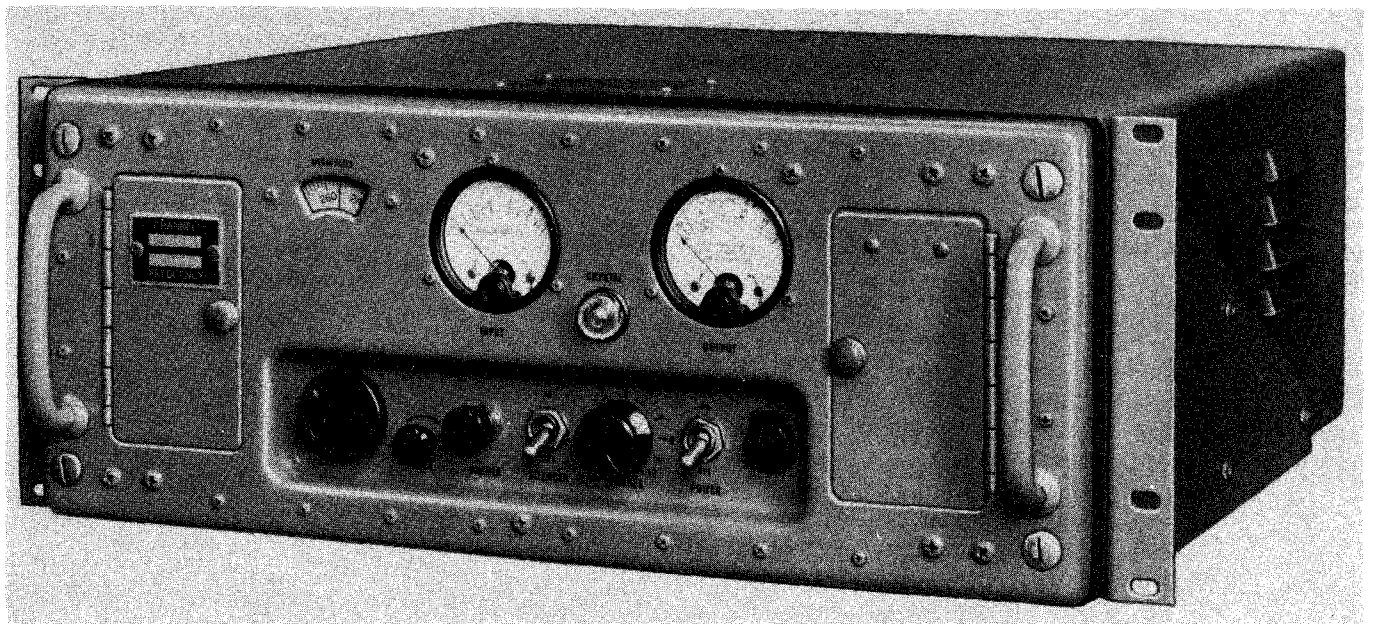

Figure 3-4. Radio Receiver R-482A/URR-35, Relay-Rack Mounting Brackets Attached and Shockmounts Removed
(2) RELAY-RACK MOUNTING.—If the receiver is to be mounted in a standard 19-inch relay rack, it will be necessary to remove the four shockmounts from the bottom of the cabinet and to attach the two angle brackets provided to the sides of the cabinet; see figure 3-4. The shockmounts can be taken off by merely removing the bolts in the corners of their flange plates. The angle brackets are symmetrical in shape and are attached, one to each side of the cabinet, by means of No. 8-32 x 1/2-inch long Phillip's-head machine screws. Five holes in each bracket line up with five tapped inserts in each side of the cabinet; see figure 3-3. (The required screws will be found threaded into the tapped holes in the cabinet.) Removal of the shockmounts will also cause detachment of the phosphor-bronze grounding strap, which is ordinarily connected between one of the shockmount mounting screws and the 5/16-inch diameter cabinet mounting bolt which drops through the hollow core of the shockmount. This strap will not be needed for relay-rack mounting, but should be put in safe keeping for possible future use.